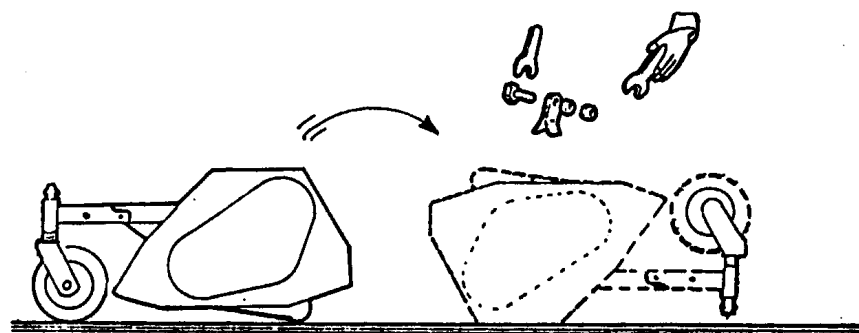

Fig. 18
- 1) In case of flails change by lifting the mower, we remind you to use proper lifting equipment to the machine weight and that can fix the mower properly. (fig. 18)
- 2) Disconnect the flail mower from the tractor and overturn it in the way to have the flails shaft in a clear view. (Fig.18 A)